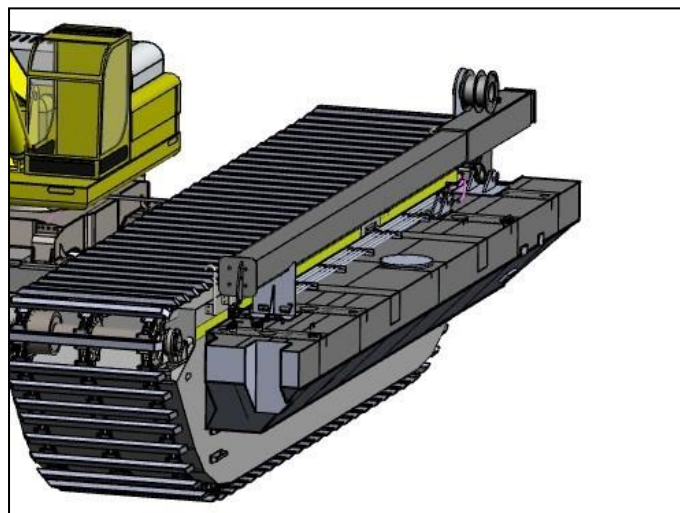

Figure 3.10: Spuds position during traveling
2. Slowly control the travel lever to raise the spud until it reaches the limit plate. Refer to Figure 3.10.